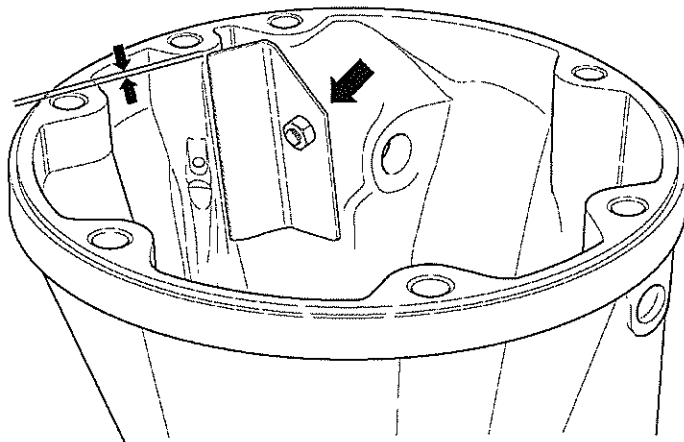

Fig 16 Oil collector plate
27.3 Fit oil collector plate approximately 0.5 mm below edge of housing sealing surface. Secure bolt with Loctite 242 (see Fig 16).